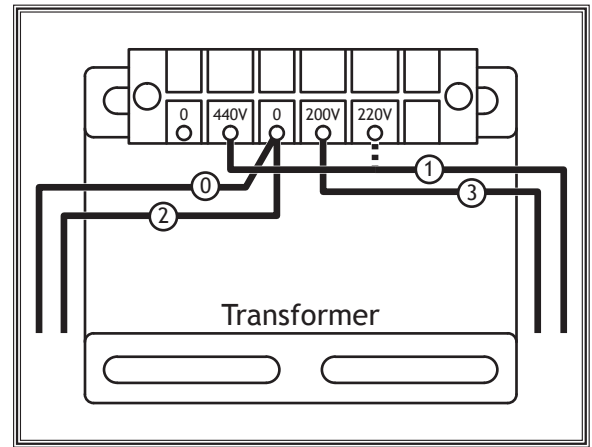

Figure 5. Rewiring transformer from 220V to 440V.
3. On transformer, remove wire connected to 220V terminal, and connect it to 440V terminal, as shown in **Figure 5** and in the illustrations on **Page 54**.